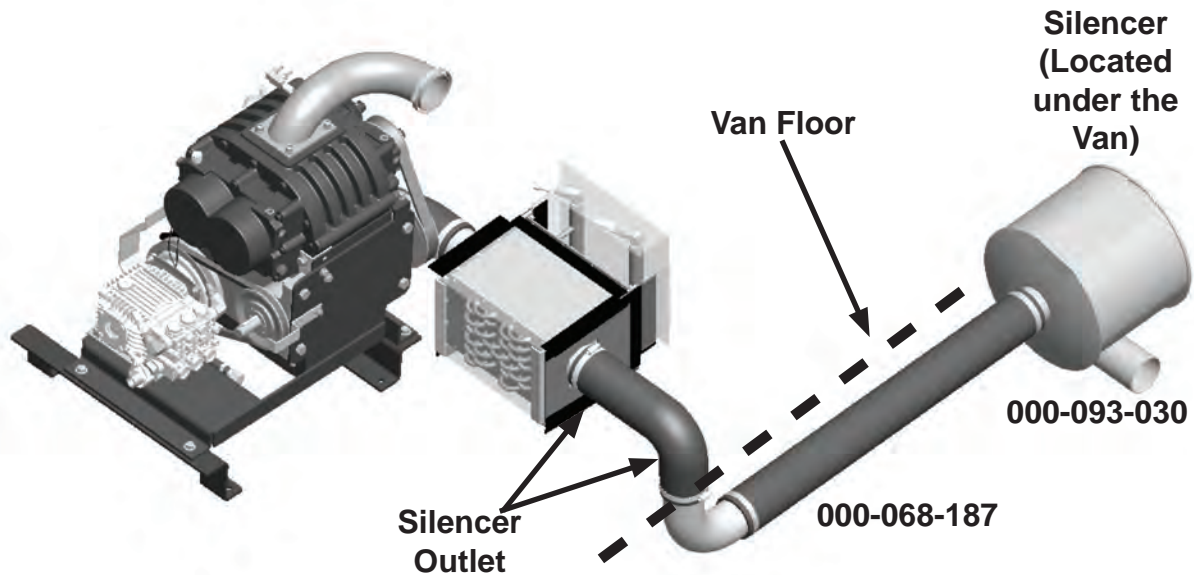

Figure 47. Attach Long End of Elbow to Hose Assembly
5. Route and connect the hose to the Blower outlet adapter, and secure with hose clamps on both ends. Install the 30" hose assembly (P/N 000-068-187) onto the elbow and then install the silencer (P/N 000-093-030) under the van (see Figure 47).